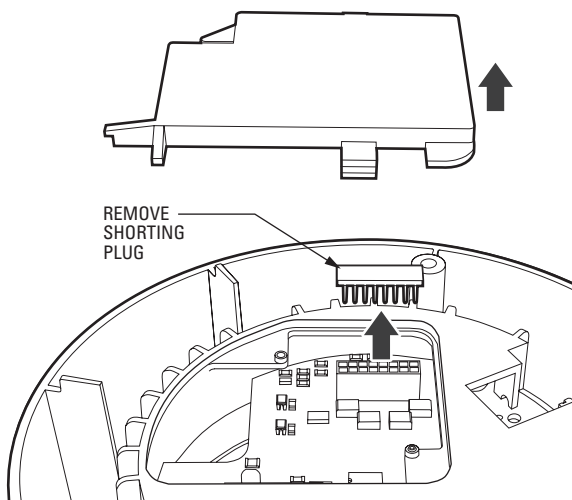
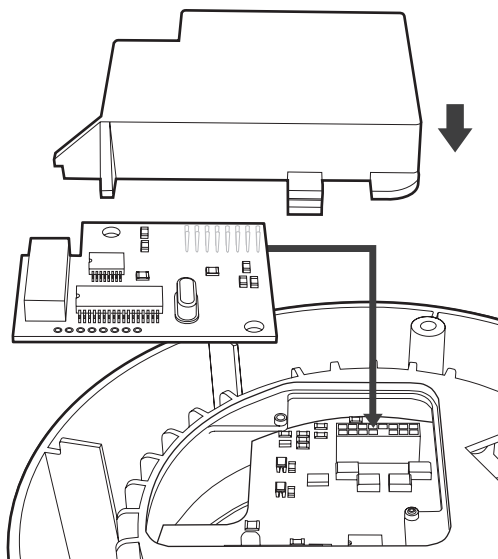

Figure 14. Removing the Mini Dome Cover and Shorting Plug
Figure 15. Installing the TXB-B and Mini Dome Cover
7. Install the TXB-B translator board (refer to Figure 14 and Figure 15 on page 15):